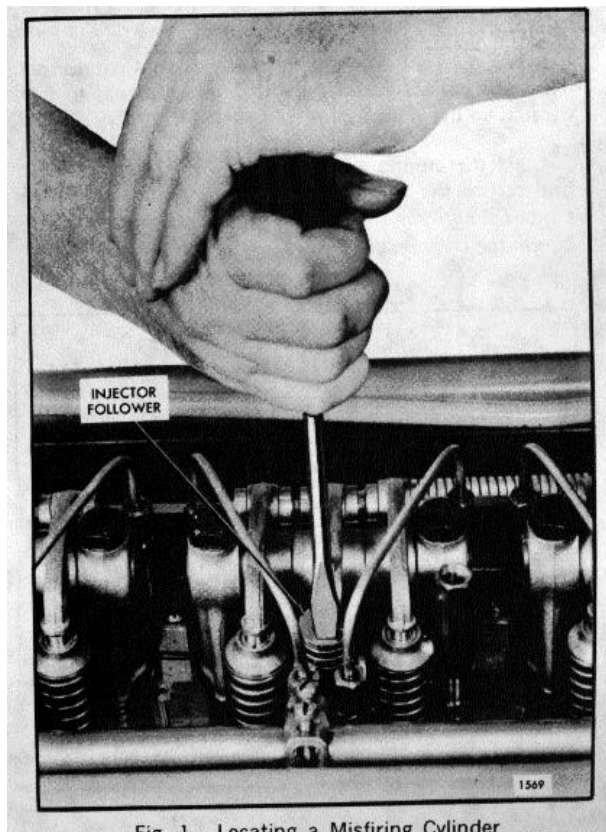

Fig. 1 - Locating a Misfiring Cylinder
4. Start the engine. Then hold an injector follower down with a screwdriver to prevent operation of the injector (Fig. 1). If the cylinder has been misfiring, there will be no noticeable difference in the sound and operation of the engine. If the cylinder has been firing properly, there will be a noticeable difference in the sound and operation when the injector follower is held down. This is similar to short-circuiting a spark plug in a gasoline engine.